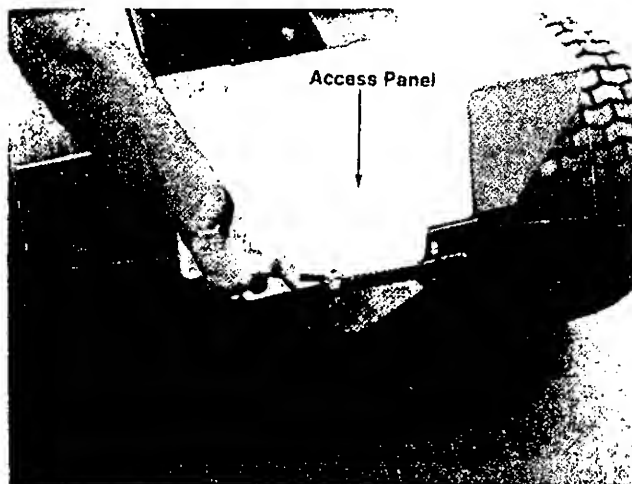

FIGURE 5. REMOVE BATTERY ACCESS PANEL
1. Remove the access panel on rear of rider by removing the thumb screw. See figure 5.